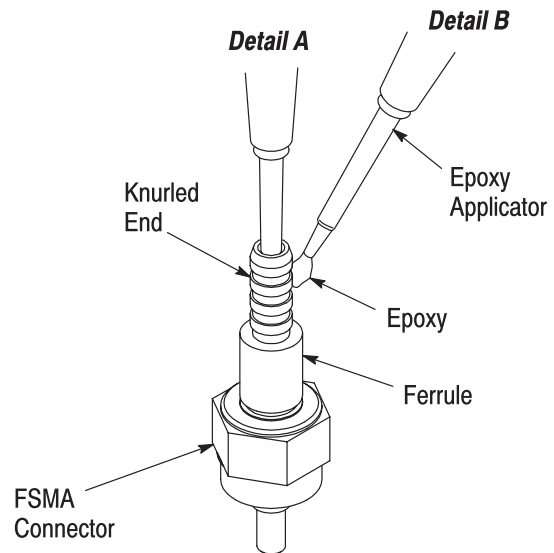

Figure 4
2. Insert the tip of the epoxy applicator until it bottoms against the ferrule. See Figure 4, Detail A.
5. Apply a small drop of epoxy to the outside of the knurled end of the connector. See Figure 4, Detail B.